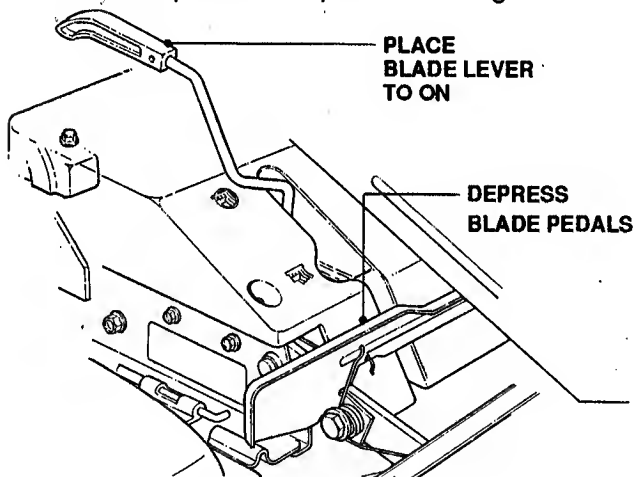

FIGURE 2.12
2. Raise and move blade lever to "ON" position and depress blade pedals. See Figure 2.12.